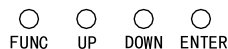

Fig.6
- Press the button FUNC so many times until the display shows [*SLA*] (fig.6).